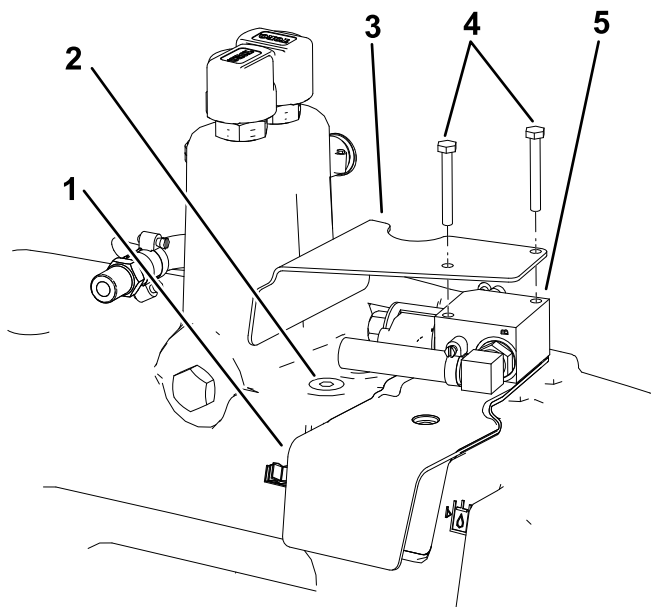

Figure 8
2. 90° hydraulic fittings (2)
5. Install the 90° beaded hydraulic fitting to the main-hydraulic tank (Figure 8).